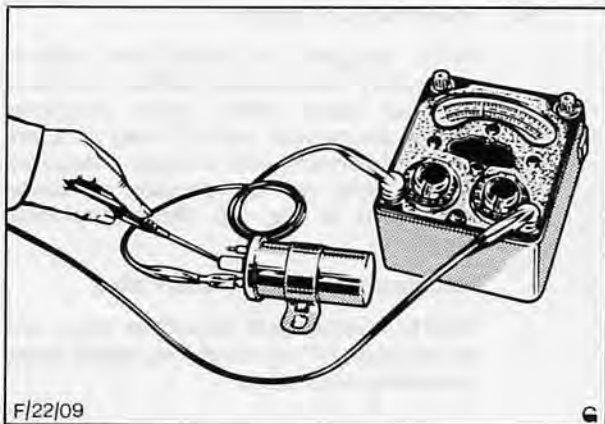

Fig. 22. Coil secondary circuit resistance test
- (b) Secondary Circuit, Fig. 22